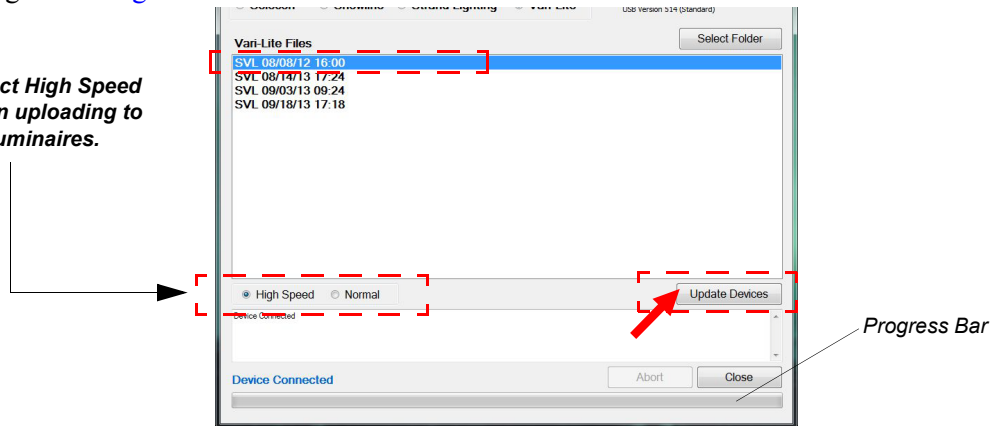

Figure 3-11: bin File Selection
Step 7. Click on bin file for luminaire to be updated (for example, SVL_080812.bin) as highlighted in Figure 3-11.
- Step 8. As indicated in Figure 3-11, click on Update Devices to start upload.